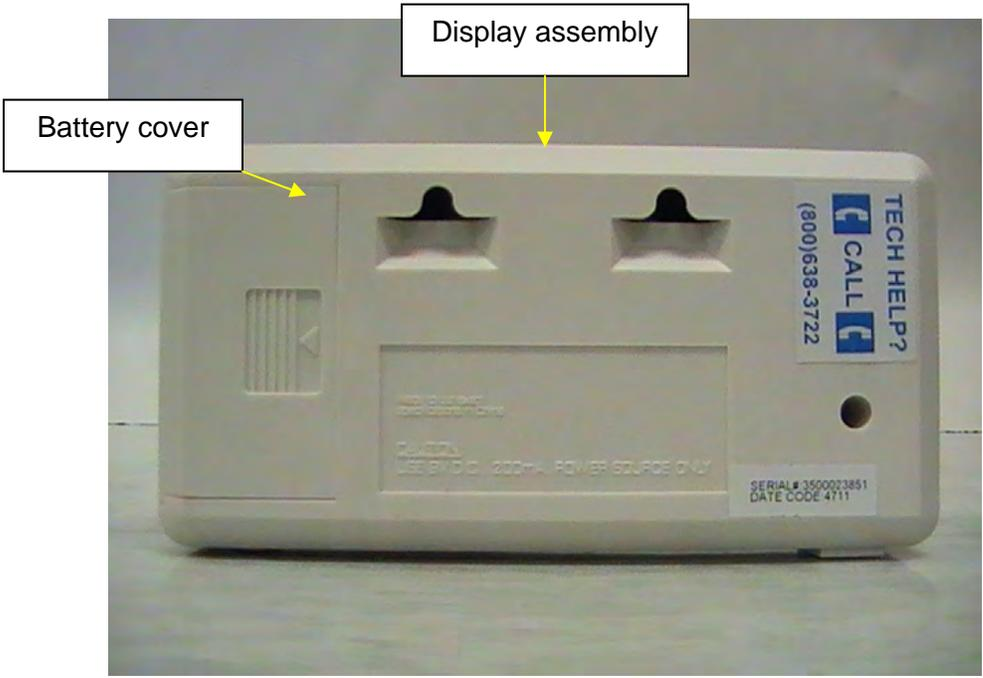

Figure 5
2. Remove the battery cover on the side of the display assembly by sliding the battery cover out (see Figure 5).
2. Place battery into the battery holder (see Figure 5).